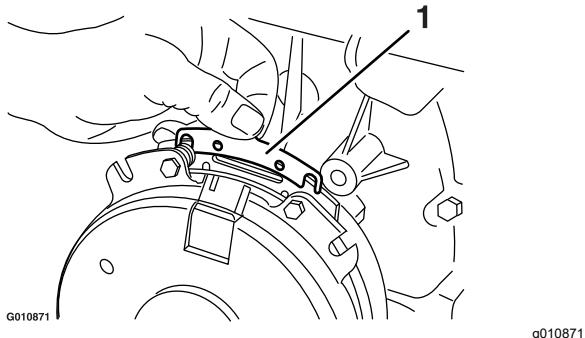

Figure 75
B. Using needle-nose pliers, or by hand, hold the tab and remove the shim (Figure 75).
Remove any buildup of grass, dirt, or other debris from the engine screen. This helps ensure adequate cooling and correct engine speed and reduces the possibility of overheating and mechanical damage to the engine (Figure 75).